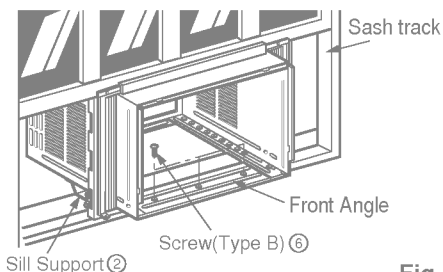

Fig. 5
- The cabinet should be installed with a very slight tilt (about 1/2") downward toward the outside (See Fig. 5).